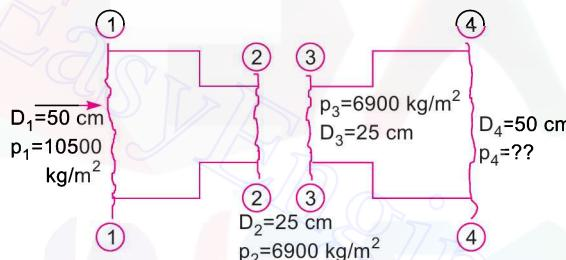

Fig. 11.3
**Problem 11.14** In Fig. 11.3 below, when a sudden contraction is introduced in a horizontal pipe line from 50 cm to 25 cm, the pressure changes from  $10,500 \text{ kg/m}^2$  ( $103005 \text{ N/m}^2$ ) to  $6900 \text{ kg/m}^2$  ( $67689 \text{ N/m}^2$ ). Calculate the rate of flow. Assume co-efficient of contraction of jet to be 0.65.